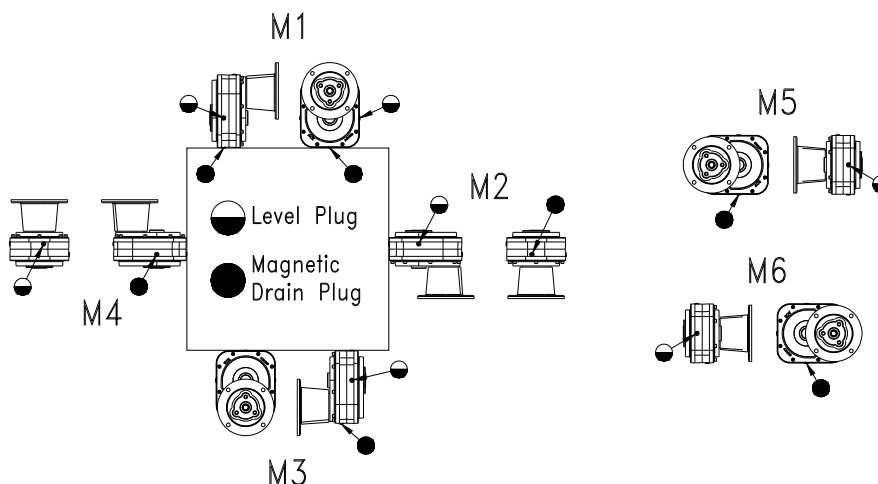

Figure 1 – Lubricant Level and Drain Locations at Various Mounting Positions
- ❑ Flush the unit with new lubricant and fill to the proper level. Refer to tables 2 through 4 and figure 1.